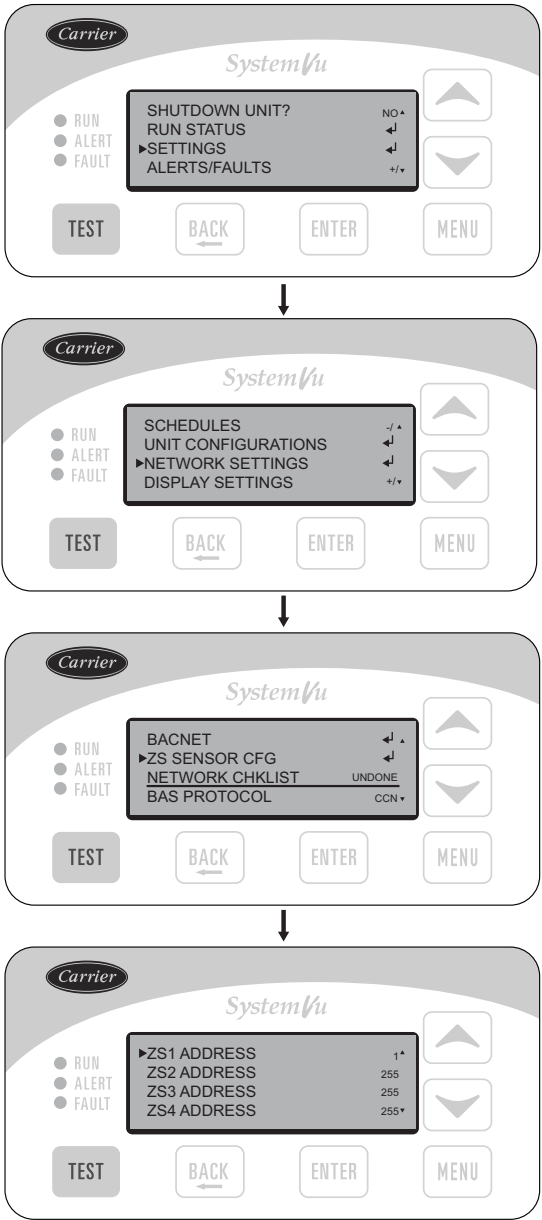

Fig. 18 – Path for Configuring ZS Sensor Address
2. On SystemVu User Interface Navigate to SETTINGS / NETWORK SETTINGS / ZS SENSOR CFG and set the ZS Sensor address (see Fig. 18).